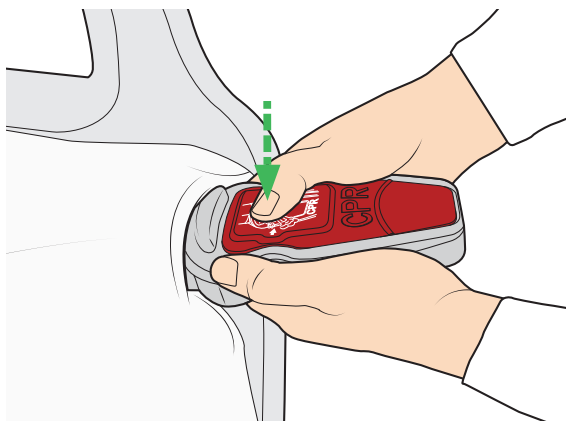

Figure 30
6. Make sure that the CPR rapid deflation unit is in closed position. (See Figure 30.) The CPR rapid deflation unit must be accessible at all times.